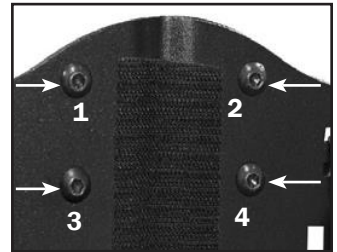

Fig. 77
1. Insert screw into one of the four holes on the upper portion of the back pan. Fig. 77